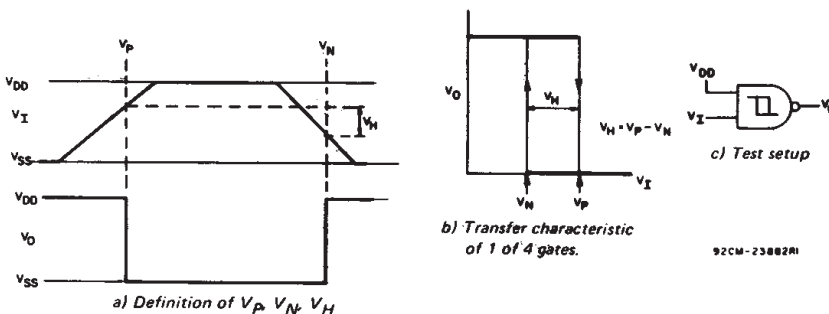

Fig. 2 – Hysteresis definition, characteristic, and test setup.
■ CD4093B consists of four Schmitt-trigger circuits. Each circuit functions as a two-input NAND gate with Schmitt-trigger action on both inputs. The gate switches at different points for positive- and negative-going signals. The difference between the positive voltage (V_P) and the negative voltage (V_N) is defined as hysteresis voltage (V_H) (see Fig. 2).